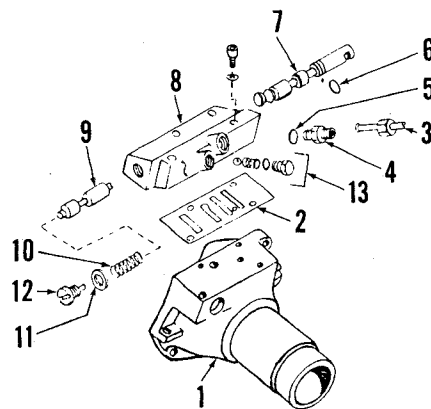

Fig. 145—Exploded view of Multi-Power shift control valve and associated parts.
Use a new gasket (2—Fig. 145) when reinstalling valve. Make sure the long cap screw with copper sealing washer is installed in the correct hole and tighten all screws evenly to a torque of 4.1-5.4 N·m (36-48 in.-lbs.). Tighten the four screws that attach housing (1) to transmission to 54-61 N·m (40-45 ft.-lbs.) torque.
148. **OVERHAUL.** To overhaul the removed "Multi-Power" control valve, refer to Fig. 145 and proceed as follows: Remove fitting (4) and detent assembly (13), then withdraw shift valve (7). Remove plug (12), washer (11) and spring